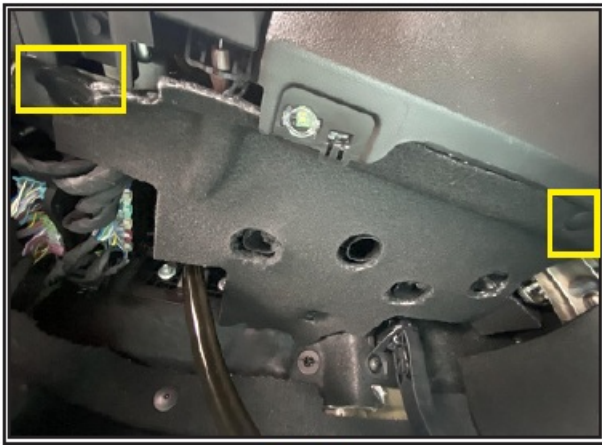

Figure 1
- Remove the two push-in rivets as shown in Figure 1 to take off the felt foot well
- Step 1. Remove the two push in rivets indicated in Figure 1 in order to remove the felt foot well covering.